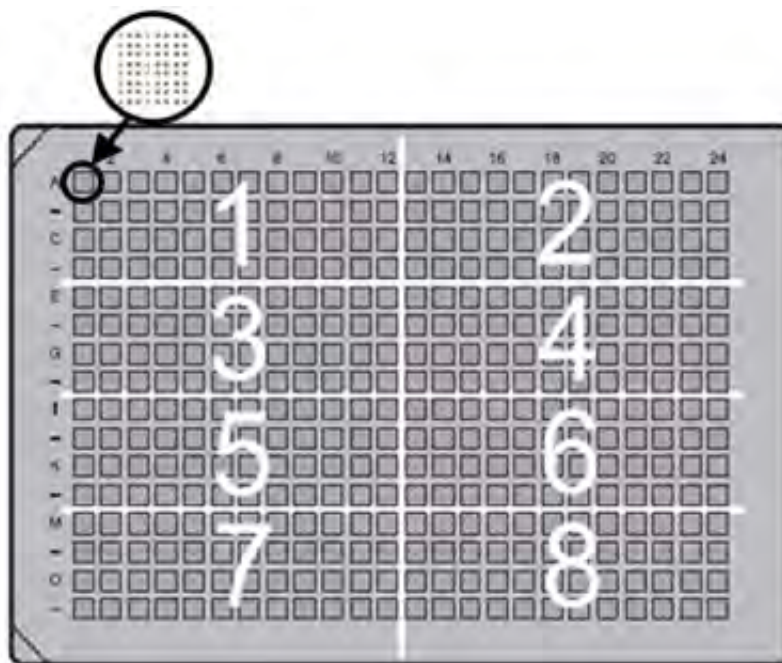
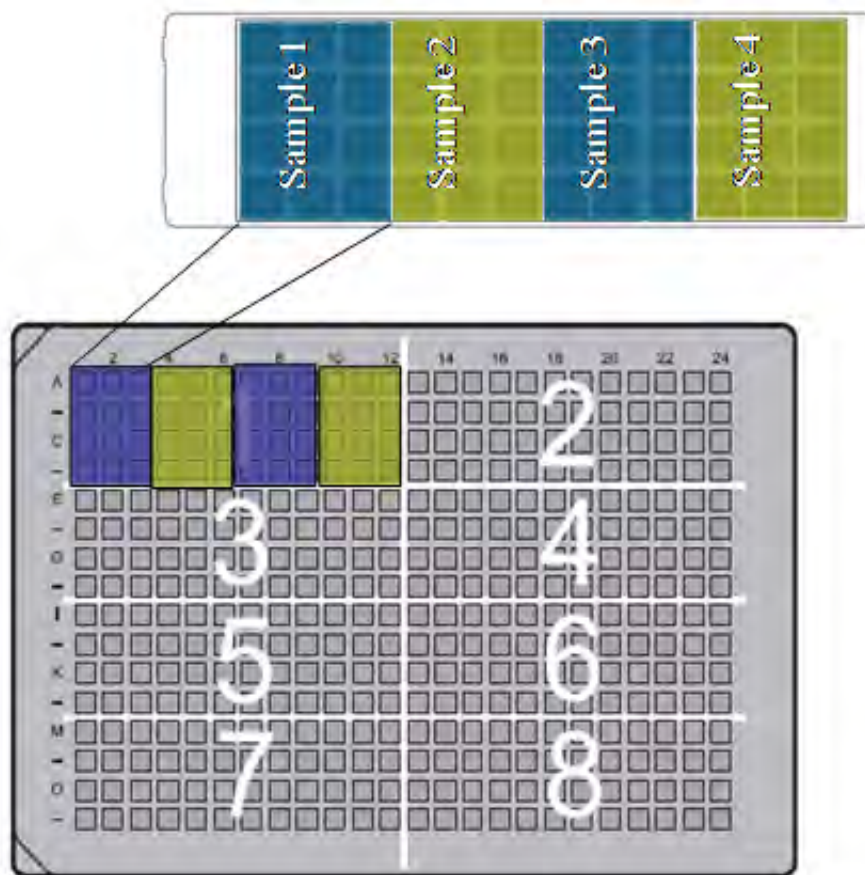

Figure 4 384-well sample plate layout
Figure 5 Loading schematic for the 672-format plate layout
- Distribute 5 μ L of PCR reactions into each well of the 384-well sample plate using a single- or multi-channel pipette. The contents of one well of a 384-well sample will load one subarray on the OpenArray[®] plate (Figure 4).
- To load 12 subarrays (672-format), distribute sample 1 into wells A1 through D3, sample 2 into wells A4 through D6, sample 3 into wells A7 through D9, and sample 4 into wells A10 through D12 (Figure 5).
3. Distribute 5 μ L of PCR reactions into each well of the 384-well sample plate using a single- or multi-channel pipette. The contents of one well of a 384-well sample will load one subarray on the OpenArray[®] plate (Figure 4 or Figure 5).